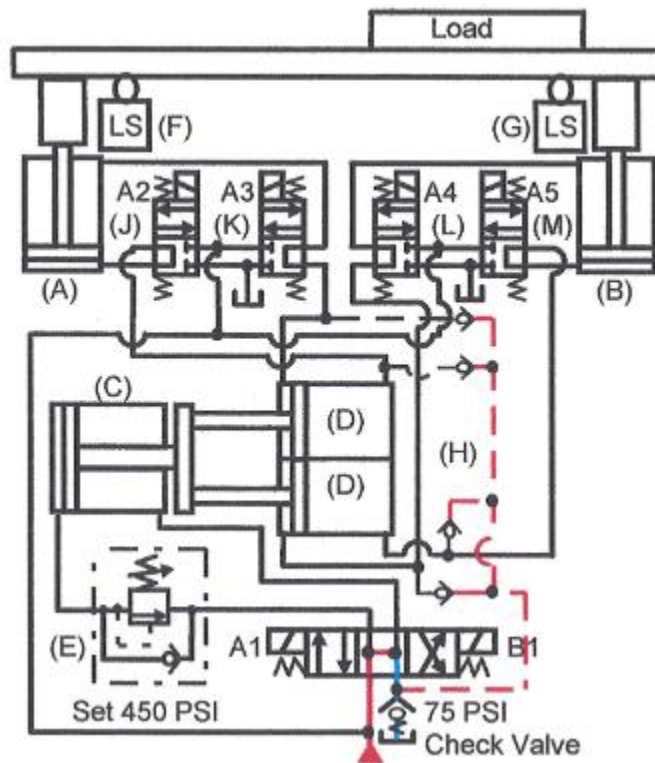

Figure 22-29. Master-and-slave-cylinder synchronizing circuit -- at rest with pump running.
Figures 22-29 through 32 show one of the most accurate ways to hydraulically synchronize cylinders. Figure 22-29 shows the circuit at rest. Cylinder (C) -- mechanically linked to two cylinders (D) -- provides the driving force. The (D) cylinders have the same bore, stroke, and rod diameter as working cylinders (A) and (B). One cylinder (D) connects to cylinder (A), while the other cylinder (D) connects to cylinder (B). In case of external leakage, makeup check valves (H) let oil into the dead areas of cylinders (A), (B), and (D) at low pressure. A 75-psi backpressure check valve in the tank line gives sufficient pressure to make sure the trapped oil volume stays full. Leveling valves (J) through (M) retract the cylinders to home position when they get out of phase. Limit switches (F) and (G) indicate cylinder home positions and operate the leveling valves when the cylinders get out of synchronization. Counterbalance valve (E) stops the cylinders from running away while they retract.